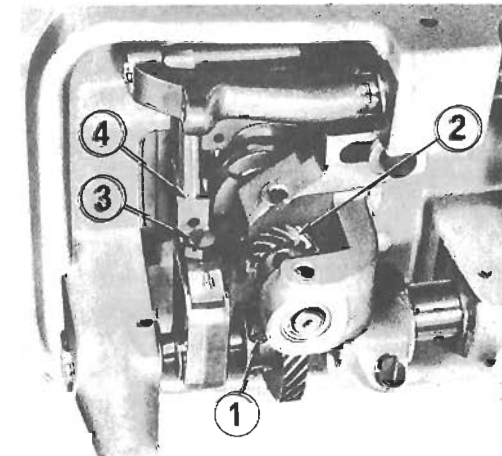
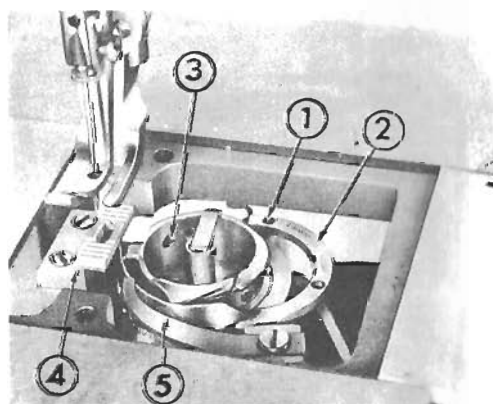

Fig. 22
Fig. 23
When the timing of the needle bar and the blade point is matched wrong, rotate the hand wheel towards the operator and set the height of the needle bar applying the above-mentioned method. Then, loosen the 2 screws of the large mitre gear (Fig. 23 ①), move the mitre gear to right or left, rotate the sewing hook and match it with the axis of the needle and re-tighten the 2 screws. At this point, the sewing hook is firmly set to the small mitre gear (Fig. 32 ②).
#### 6. Removing the bobbin case from the sewing hook (Fig. 23)
Remove the 2 small screws (Fig. 23 1) from the sewing hook, open the hook gib (Fig. 23 2) as shown in Fig. 22 and take out the bobbin case (Fig. 23 3).
Slide open the bed slide, remove the throat plate, feed dog (Fig. 23 4) and the sewing hook guide latch (Fig. 23 5).
Then, tilt the machine head backwards, loosen 2 set screws of the hook driving pinion (Fig. 22 2) and remove the sewing hook by knocking the bottom of the spindle of the hook lightly by a screw driver.
(Fig. 22 3), slide the feed bar (Fig. 22 4) up and down and after adjusting, firmly tighten the screw.